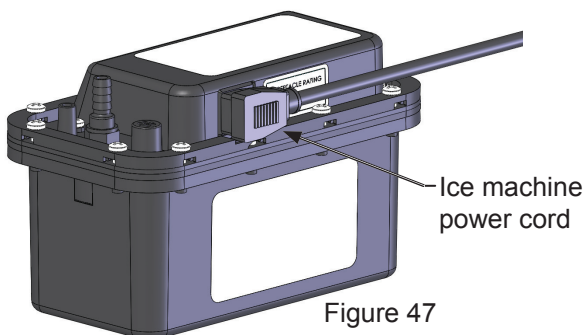

Figure 47
7. Disconnect the ice machine power cord from the drain pump (See Figure 47).